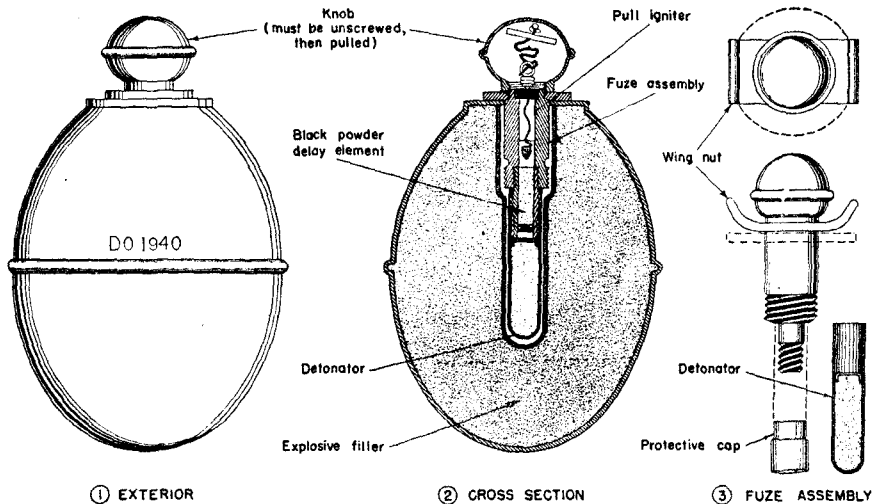

Figure 27.—Sketch of Eierhandgranate 39 (egg-type hand grenade, model 39).
(1) *General.*—This is a small thin-cased “offensive”-type grenade with a high proportion of a low-grade high explosive (see fig. 27). It is ignited by a friction-type igniter and a 4- to 5-second delay fuze.